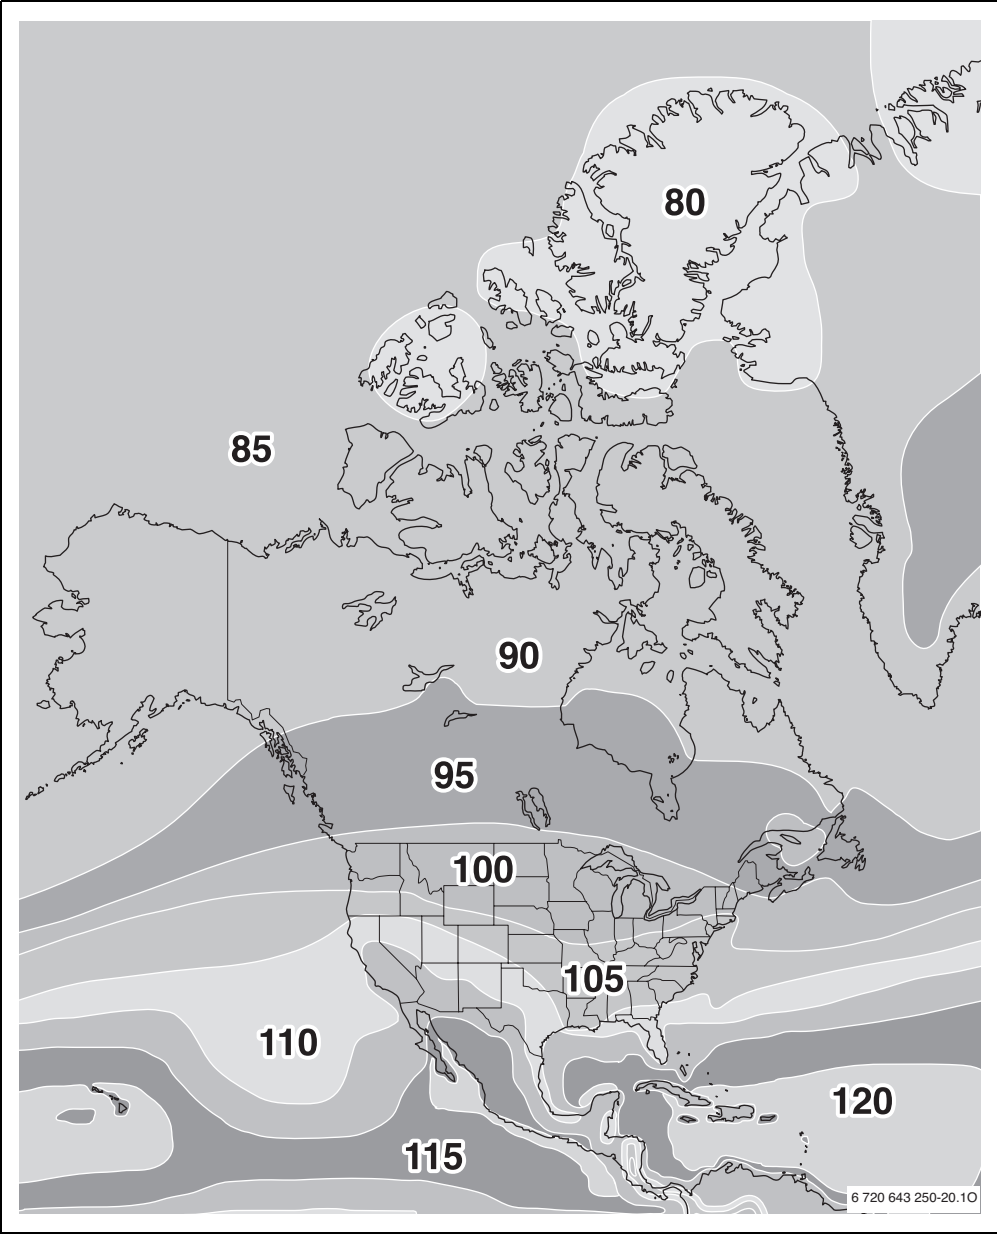

Fig. 27 Map of climate zones in North America
- Find the location of your system on the climate zones map (→ Fig. 27) and enter the climate zone number.